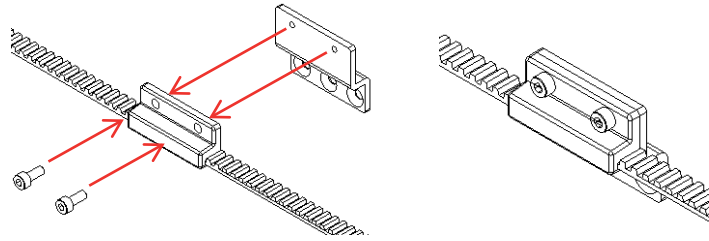

Figure 22: Bolt together the two parts of the bottom bracket.
4. Bolt together the two parts of the bottom bracket (Figure 22).